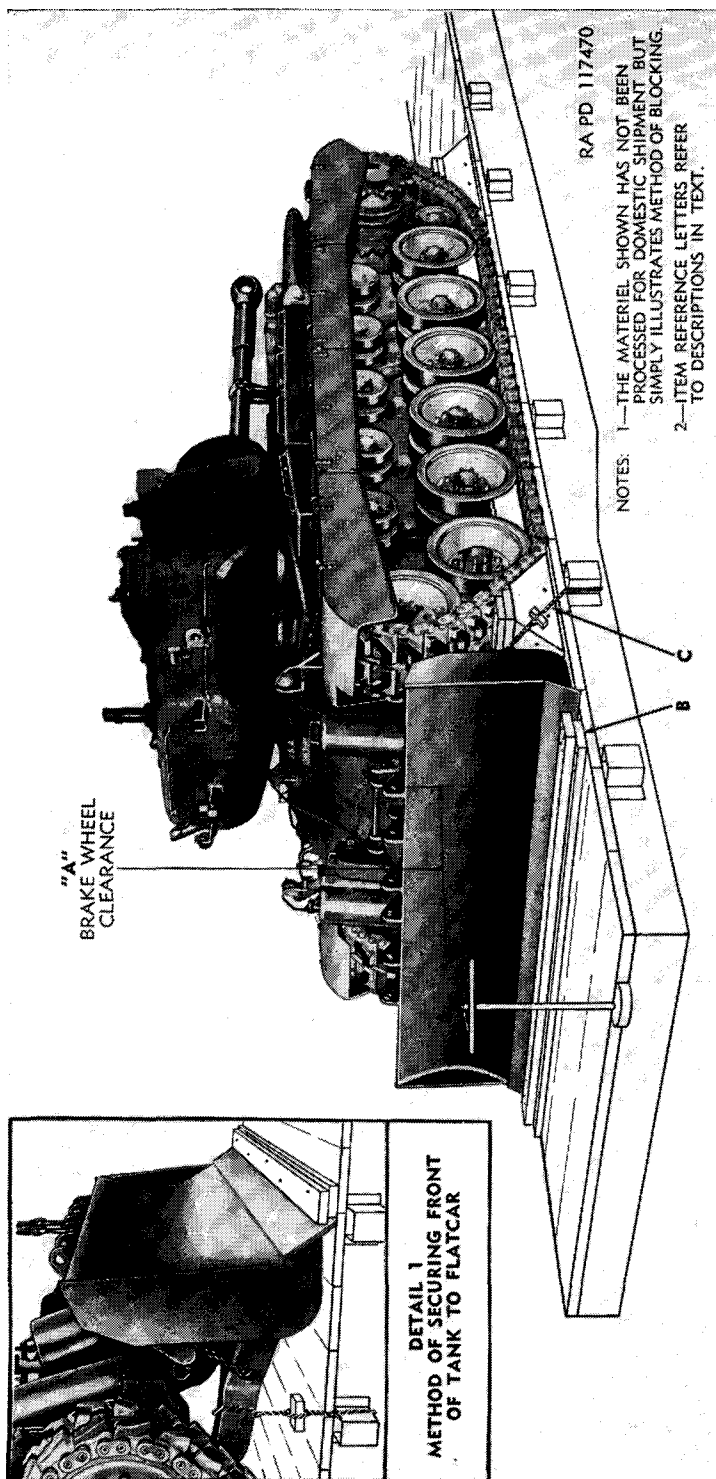

Figure 78. Method of blocking medium tank M46 with bulldozer M3 for rail shipment.
- (1) *Lower the moldboard.* After vehicle has been positioned on the flatcar, lower the moldboard until it rests on car floor.
- (2) *Brake wheel clearance "A."* Load vehicles on cars with a minimum clearance of at least 4 inches below and 6 inches above, behind, and to each side of the brake wheel (fig. 78). Increase clearance as much as is consistent with the proper location of load.
- (3) *Moldboard blocking, "B," figure 78* (2 x 6-inch cleats, length
- (4) *Strapping, "C," figure 78, detail 1 (6 strands No. 8 gage black annealed wire)*. Cut six strands of wire long enough to extend from the right push beam to a stake pocket on the right side of flatcar. Twist wires together to form a cable. Pass one end of the cable around the push beam and extend the end through the stake pocket, bringing the end back toward the push beam beyond the point half-way between the push beam and stake pocket. Form a 6-inch loop in the cable end, twisting wires tightly around the cable. Pass the free end of the cable through the 6-inch loop forming another loop. Insert a tightening tool in one of the loops. Place a random length 2 x 2-inch block between the cables. Using the tightening tool, twist the cables just taut enough to take up all slack. Retain the 2 x 2-inch block in place between cables to maintain a tightening tool aperture for future tightening of strapping if necessary. Repeat the operation for securing left push beam to a left side stake pocket, securing front of vehicle to the flatcar.